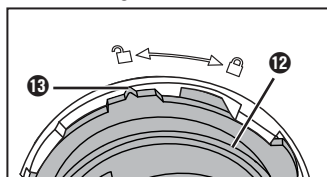

Fig. 5
- 6) Turn the bracket **12** anticlockwise until the marking **13** on the bracket **12** points towards the  symbol on the dough container **15** (fig. 5). Remove the bracket **12** together with the dough shaft **10**.